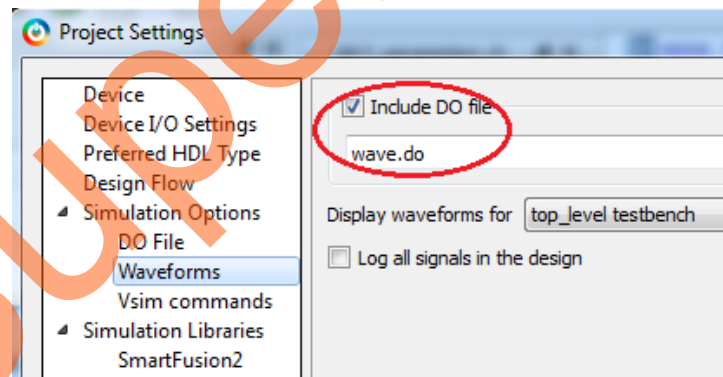

Figure 16 • Waveforms Settings
- Click **Project > Project Settings > Simulation Options > Waveforms**. Figure 16 shows the Waveforms settings on the right.
- Select the **Include DO file** check box and enter **wave.do** in the box, as displayed in Figure 16.